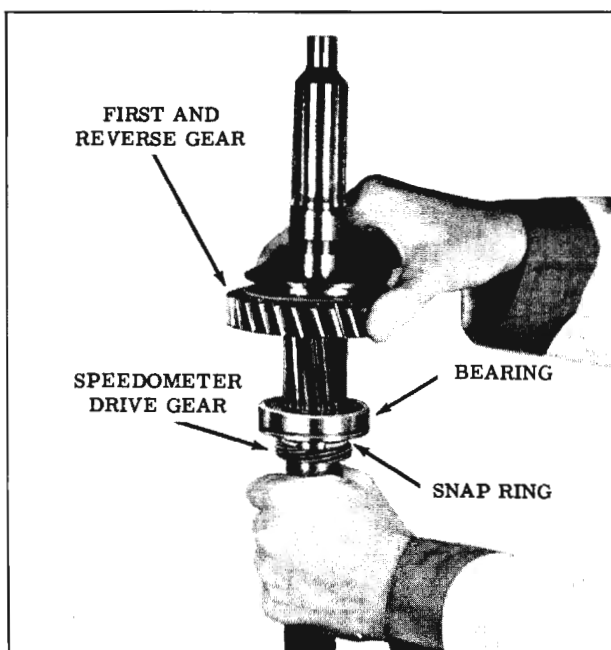

Fig. 11-24 Removing Bearing and Gear
3. Place the first and reverse gear on the main shaft with the flat side of the gear toward the bearing. Using the first and reverse gear as a slide hammer, remove the speedometer drive gear, retaining ring and bearing from the shaft. (Fig. 11-24)